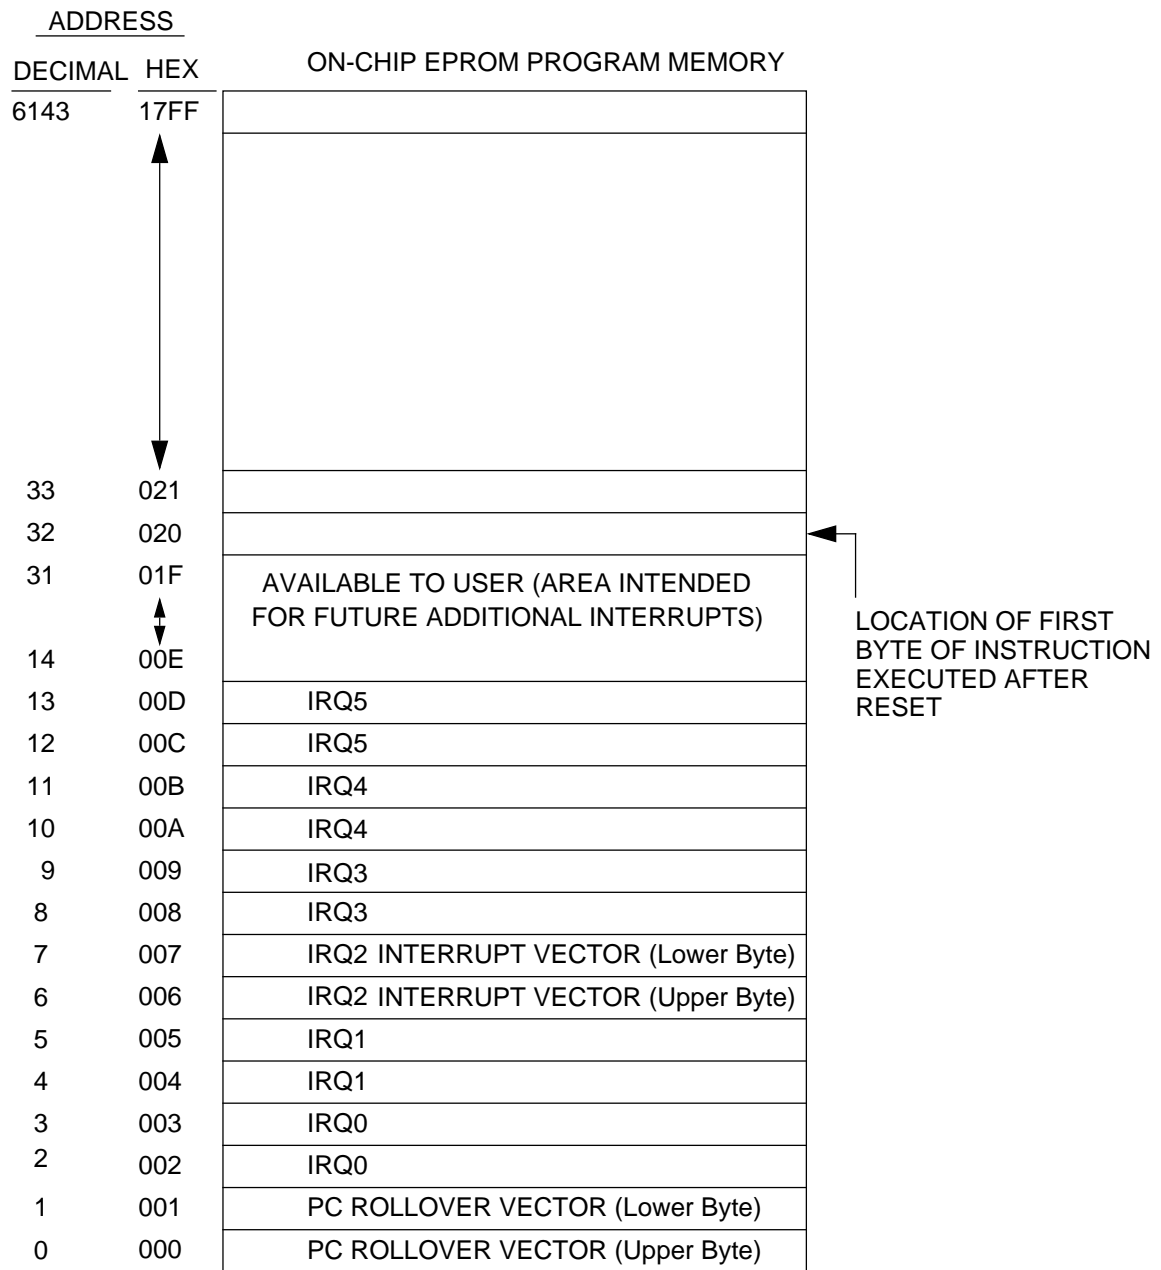

**Figure 10. Port B (6–7) Serial Communication Port**
Port B (6) has a programmable internal pullup of  $7.5\text{ K} \pm 30\%$ . For USB Mode, Port B (7) requires an external pullup of  $7.5\text{ K} \pm 1\%$  to  $V_{CC}$  (Figure 10).